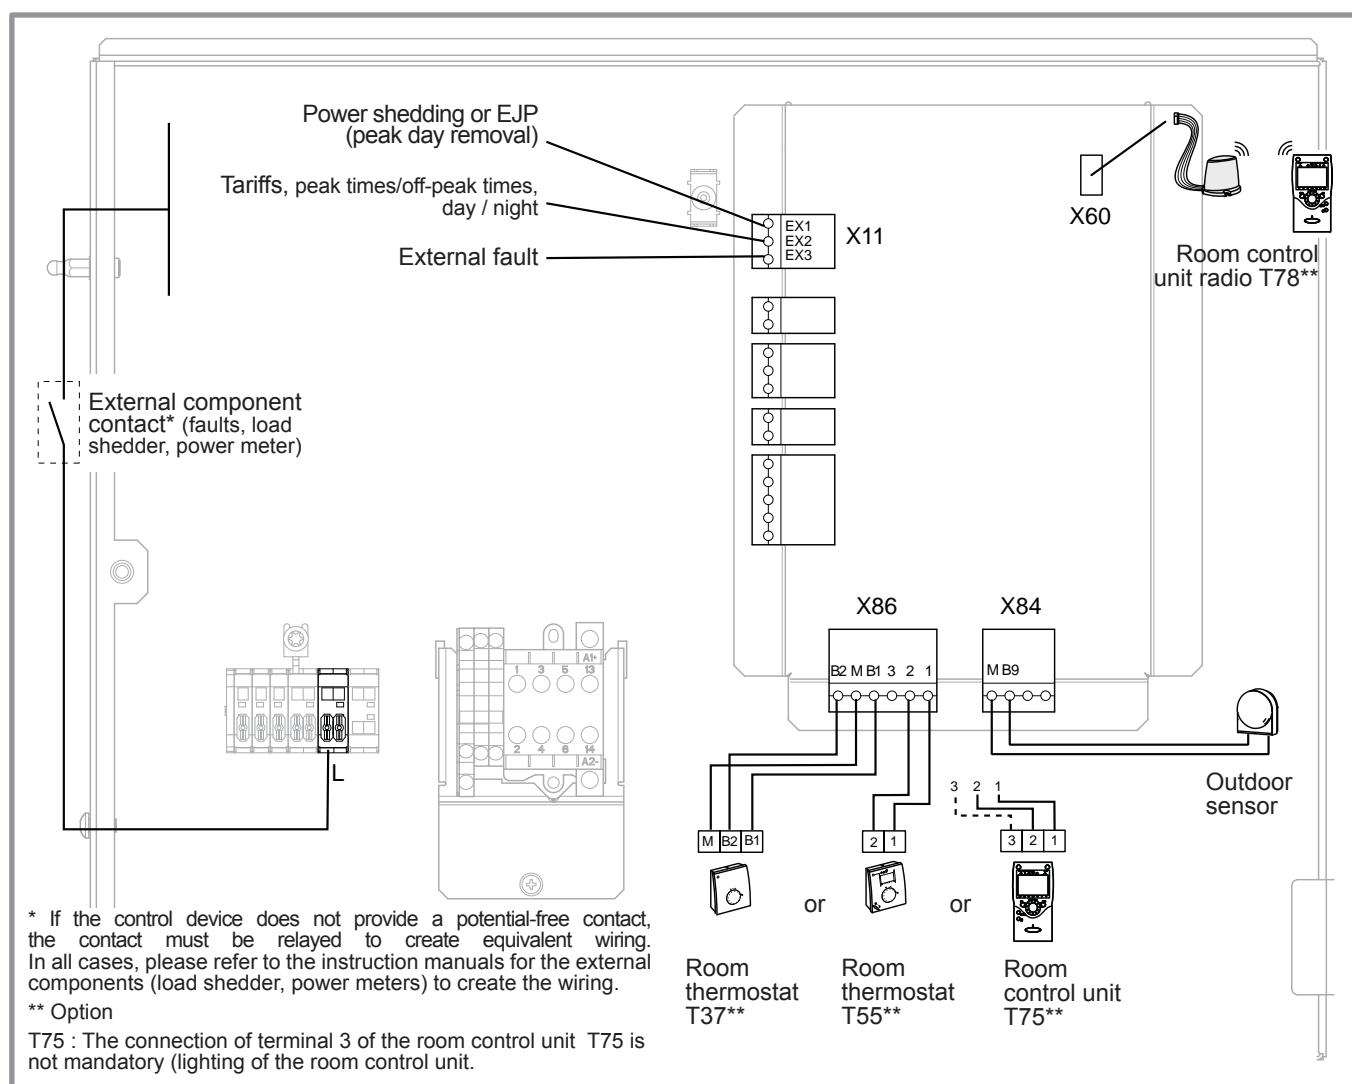

figure 30 - Connections to the heat pump regulator (accessories and options)
- Make the connections in accordance with the diagram figure 30.